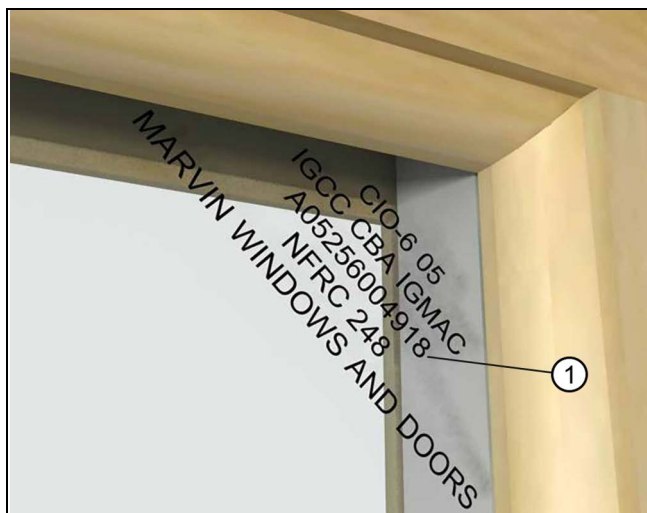

Figure 6
1. Remove the protective packaging from the unit and dispose/recycle properly. Inspect the unit for any hidden damage and report immediately to your sales representative. Provide the customer service number or glass part number etched on one of the top corners of the glass. See Figure 6.